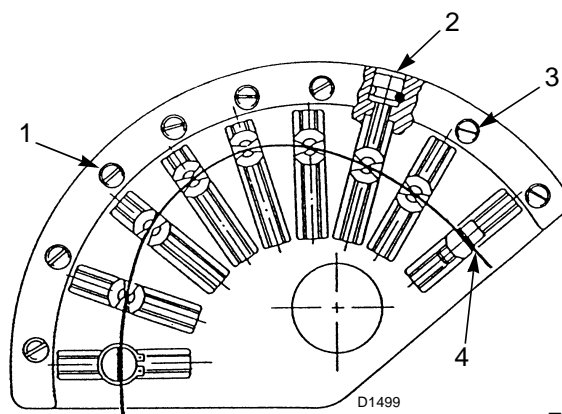

Fig. 29
The starting profile of cam 1)(Fig. 29) must be progressively adjusted by turning screws 2)(Fig. 29).
- Key (Fig. 29)
For better adjustment repeatability, take care to stop the rotation of the cam unit when the upper bearing that slides on the profile 4)(Fig. 29) is aligned with one of the adjustment screws 2).
turn the adjustment screws 2)(Fig. 29) after having loosened the screws 3).
With the optimal adjustment obtained, remember to lock the adjustment screws of the cam profiles by means of screws 3)(Fig. 29).